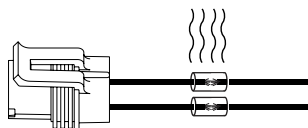

Figure 2: Splice Harness Wires to A9-4078 Fuse Holder Wire Pigtails
2. Strip 1/4 inch of insulation off of cut wires and splice to pigtail leads on fuse holder, using butt splices, crimping tool, and a heat gun. See Figure 2.